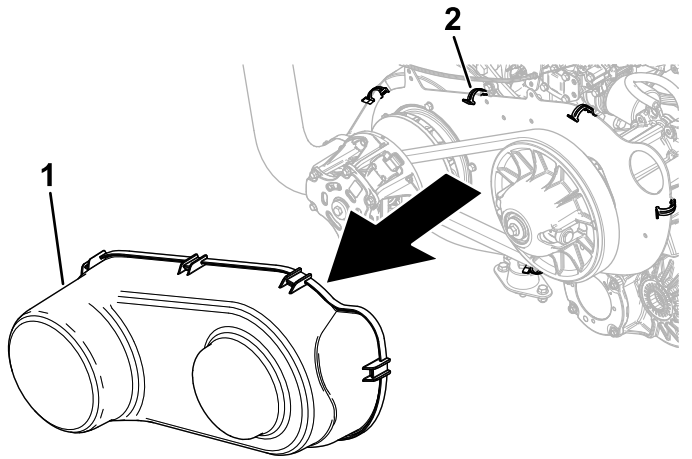

Figure 93
5. Unlatch the 6 spring clips securing the belt cover and remove the cover (Figure 93).
8. Install the belt cover (Figure 93).
10. Install the belt cover (Figure 93).